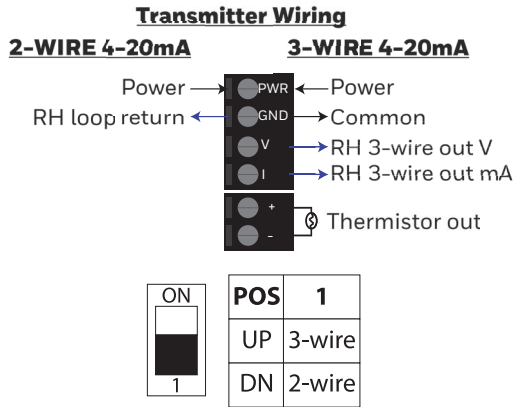

Fig. 2.
- Wire sensor as shown per Fig. 2.